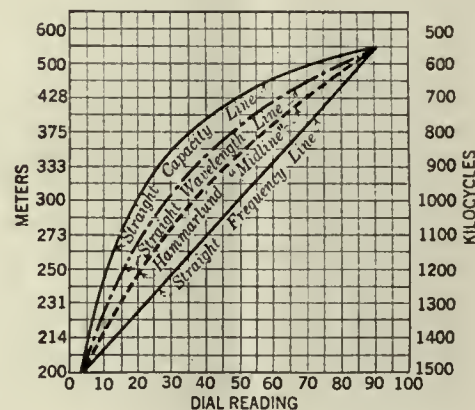

FIG. 1
**T**HE Hammarlund Midline condenser can be used in any circuit requiring a variable capacity. As the name "Midline" implies, it is a compromise between the three most common types of variable condensers—the straight wavelength-line, the straight capacity-line, and the straight frequency-line condensers. The tuning graph as shown in Fig. 1 gives the dial readings for different frequencies for the four different types of condensers. With the older straight capacity-line condensers, the station readings were crowded at the lower dial readings. The straight wavelength line condensers were somewhat better in this respect. Later, the straight frequency-line condensers were introduced which reversed the crowding. The "Midline" tends to separate the stations equally over the whole dial.